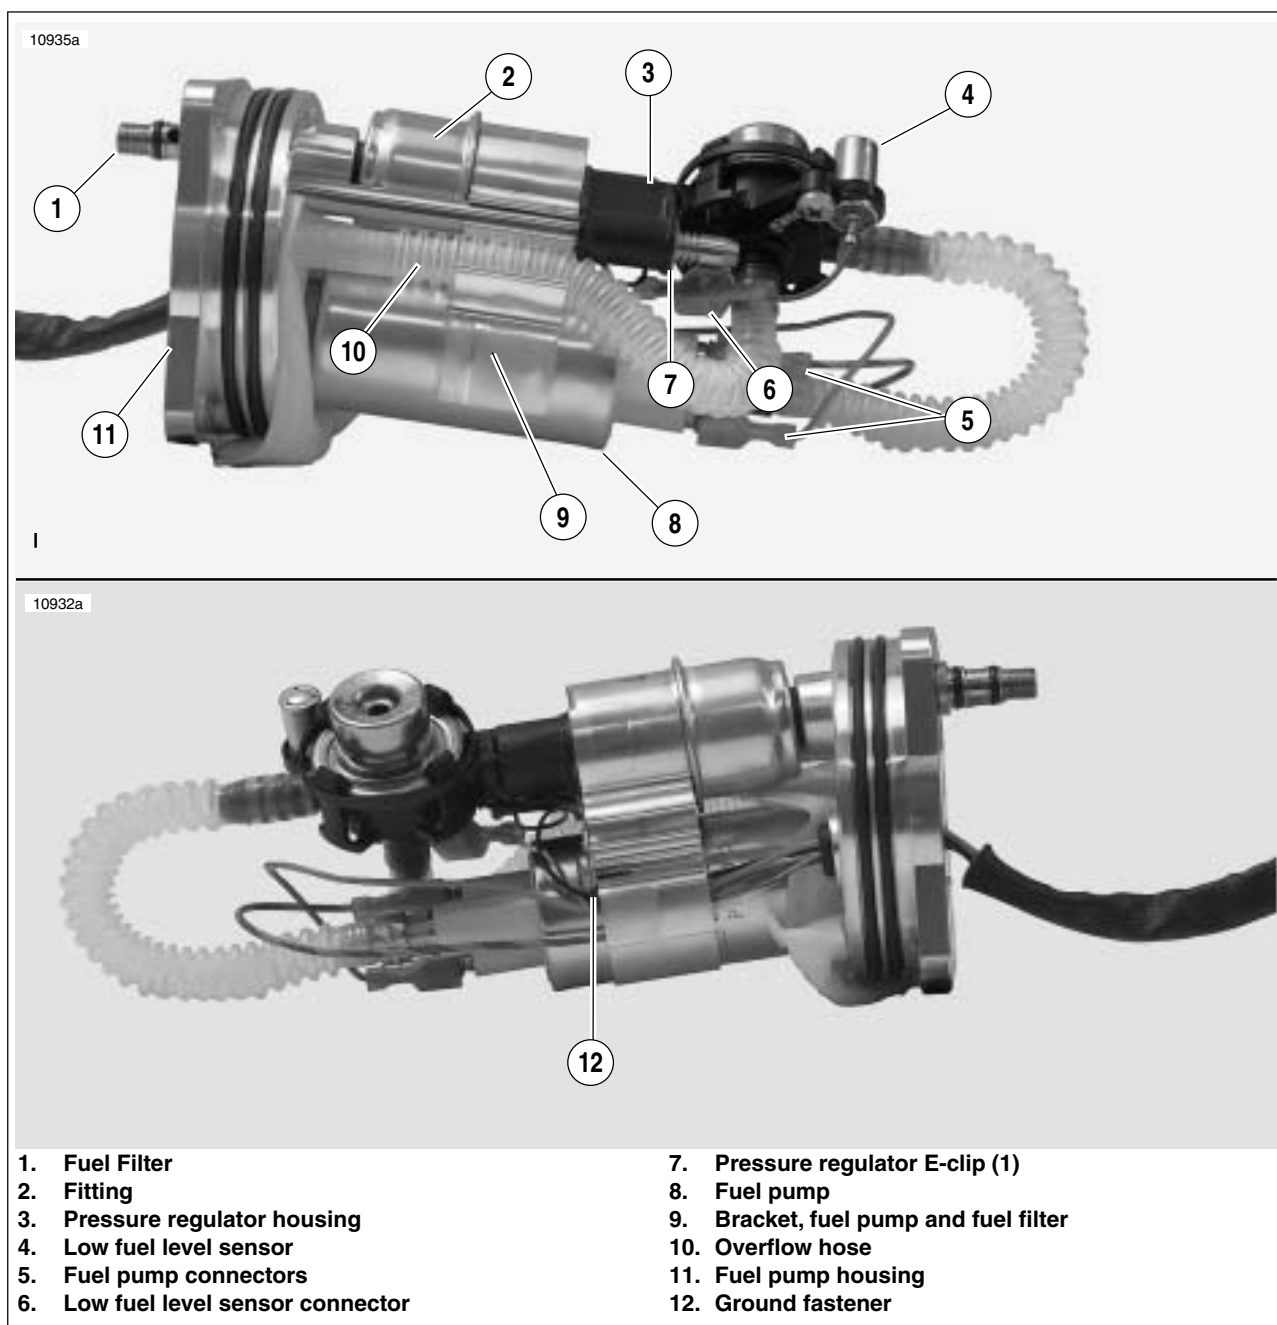
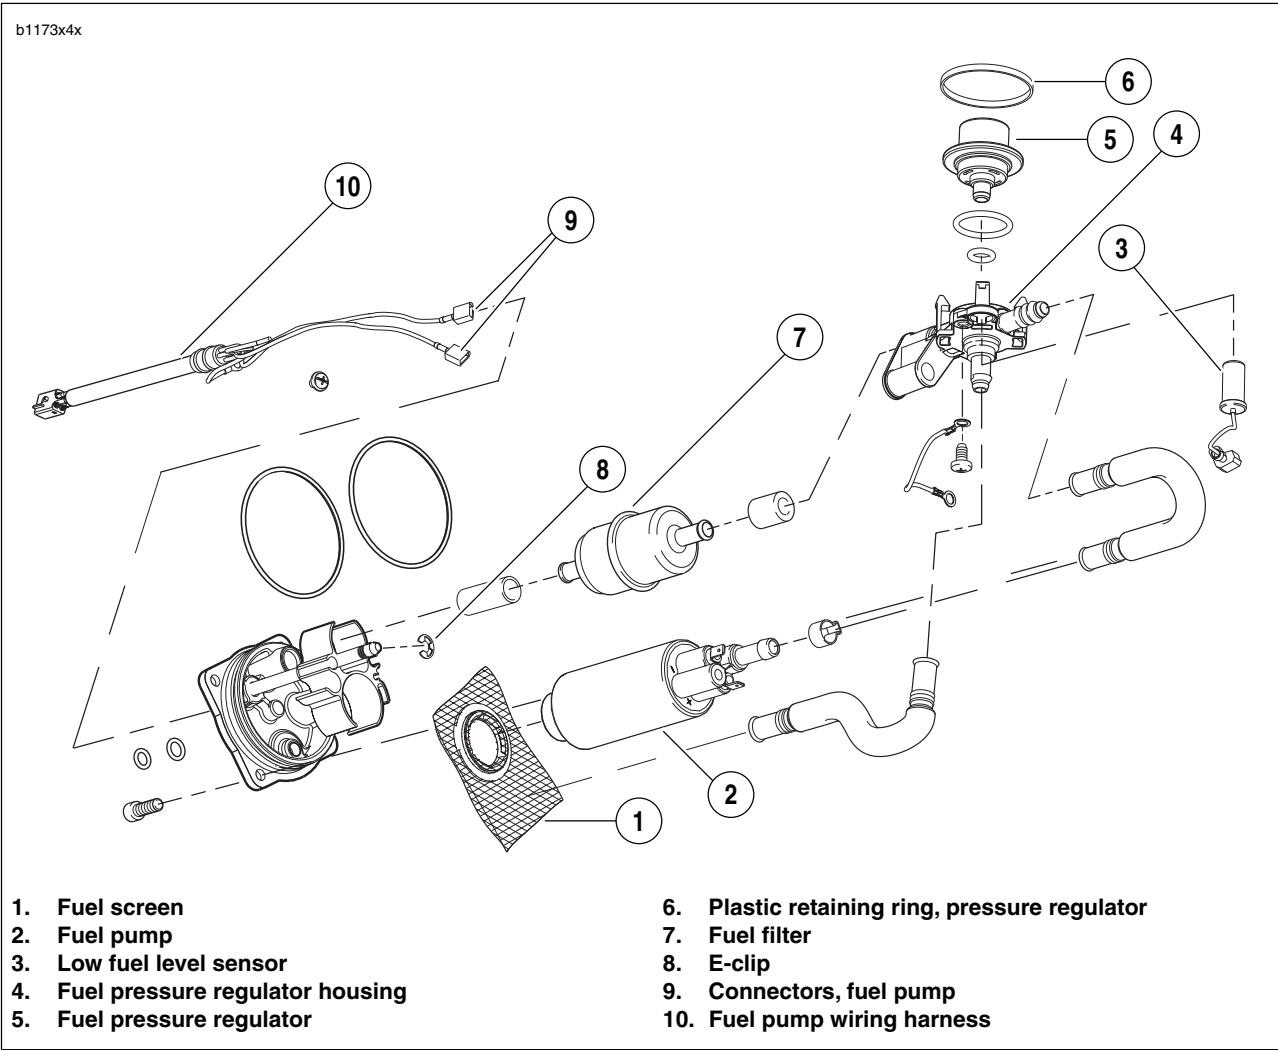

Figure 4-100. Fuel Pump Assembly (Left and Right Sides)
Figure 4-101. Fuel Pump Assembly
2. See Figure 4-100. Disconnect electrical connectors (5) & (6).
3. Remove ground fastener (12) from the fuel pump and fuel filter bracket (9).
4. Remove fuel pressure regulator E-clip (7).
5. Pull regulator housing (3) and fuel pump (8) with bracket (9).
6. Remove fuel filter (2).
7. Install rubber seals on **new** fuel filter and install filter into pump housing (11).
8. See Figure 4-100. Install regulator housing (3) and fuel pump (8) assembly.
9. Install E-clip (7) in bottom groove on shaft.
10. Install ground fastener (12) and connect ground wires to bracket (9) and tighten to 18-22 **in-lbs** (2.0-2.5 Nm).
11. Connect electrical connectors (5) & (6).
- 2. See Figure 4-100. Disconnect electrical connectors (5) & (6).
- 3. Remove ground fastener (12) from the fuel pump and fuel filter bracket (9).
- 4. Remove fuel pressure regulator E-clip (7).
- 5. Pull regulator housing (3) and fuel pump (8) with bracket (9) as an assembly.
- 6. See Figure 4-101. Pry fuel screen (1) from fuel pump (2).
- 8. Install regulator housing assembly (4) & (5) and fuel pump (2).
- 9. Install E-clip (8) in bottom groove on shaft.
- 10. See Figure 4-100. Install ground fastener (12) and connect ground wires to bracket (9) and tighten to 18-22 **in-lbs** (2.0-2.5 Nm).
- 11. Connect fuel pump connectors (5) & (6).
2. See Figure 4-100. Disconnect fuel pump connector (5) and low fuel level sensor connector (6).
4. See Figure 4-100. Remove ground screw (12).
8. See Figure 4-100. Insert **new** fastener (12), through ground wire terminal and secure to bracket (9). Tighten to 18-22 **in-lbs** (2.0-2.5 Nm).
10. See Figure 4-100. Connect low fuel level sensor connector (6).
11. Connect fuel pump connectors (8). Connectors are two different sizes.